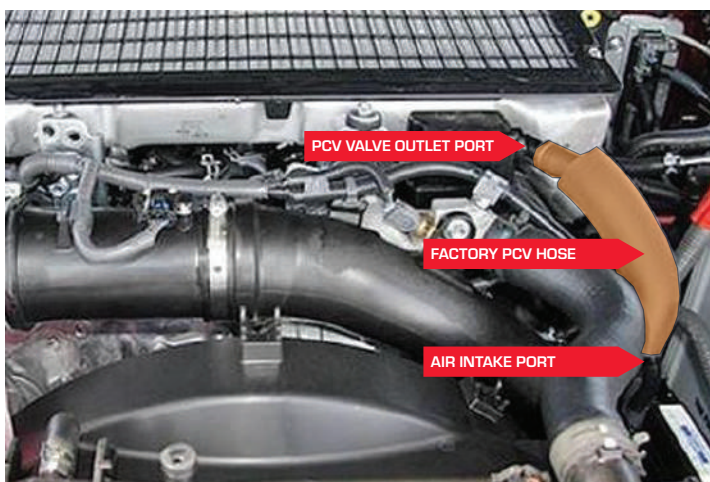

FIGURE 9
- 2 Locate the factory PCV valve at the front of the engine, as per Figure 9. Disconnect the factory PCV hose from the PCV valve but leave it attached to the air intake. Connect the small end of Ryco PCV hose MH9811A to the engine PCV valve outlet using a hose clamp. Route the Ryco PCV hose across the front of the engine, behind the factory air intake system as shown in Figure 10 and connect to the lower port of the RCC360. Secure with a supplied hose clamp.